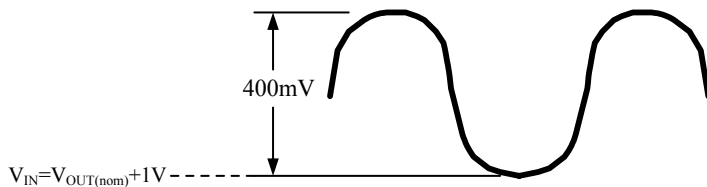

Figure 2.
**Note 7:** The PRSS is measured by applying a 400mVP-P sine wave on  $V_{IN}$  and measure the ripple at  $V_{OUT}$  (see Figure 2). Due to the very high PSRR performance of the PT5128, it is strongly recommended to use a spectrum analyzer rather than an oscilloscope to watch the PSRR performance.